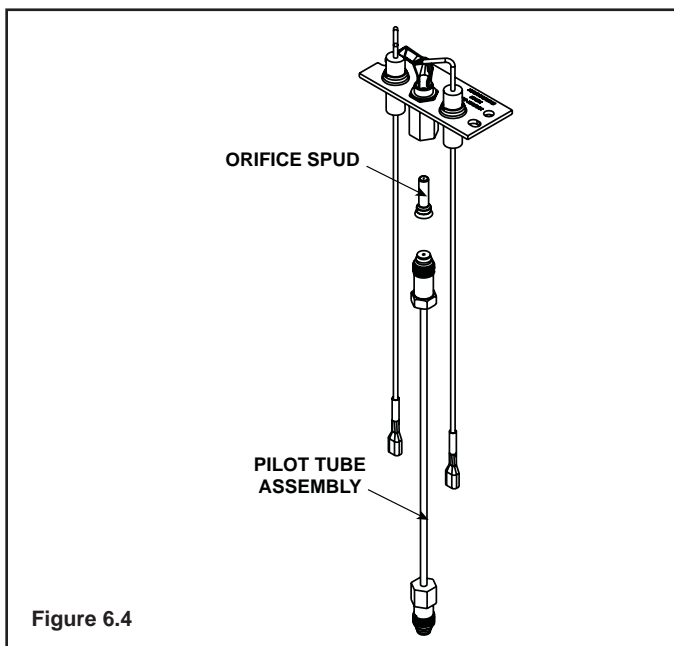

Figure 6.4
12. Unscrew the pilot tube fitting on the pilot and replace the orifice spud with the one included in the conversion kit (see Figure 6.4).
17. Reconnect the orange wire to the valve assembly. This will allow for the pilot to turn on with the control switch in the "ON" position. Check all pilot line connections for leaks. (See Figure 6.4)
18. Use a commercially available, non-corrosive leak check solution to test for leaks around the pilot. Be sure to rinse off all leak check solution following testing. See Figure 6.4 for leak check points. Extinguish the pilot.